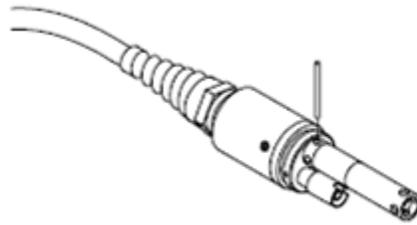

Figure 4. Sensor Installation
1. Insert the installation tool into the probe that you wish to replace, unscrewing the probe in a counter clockwise motion. See Figure 4.